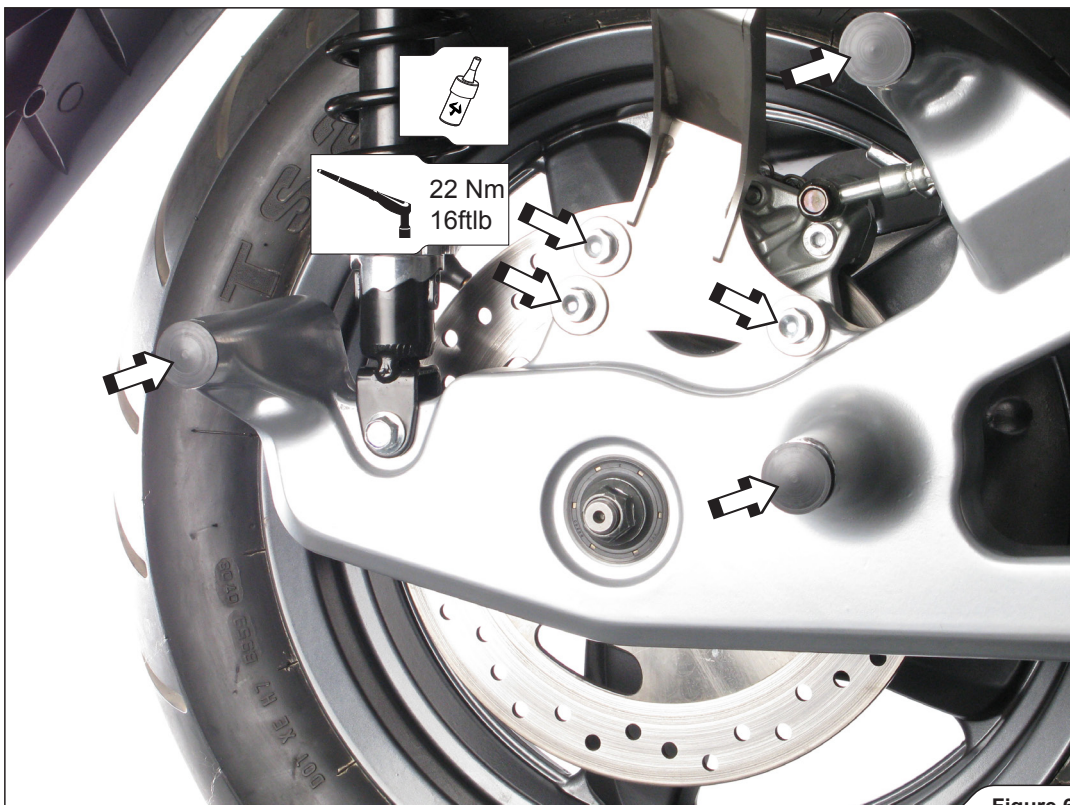

Figure 6
3. For X-MAX 125 / X-CITY 125 only: install the Akrapovič muffler bracket onto the brake caliper as shown, using Akrapovič bolts and washers. Tighten the bolts to a specified torque. Insert the Akrapovič PVC plugs into the stock muffler's mounting holes, use rubber mallet to tap the plugs into place (Figure 6).